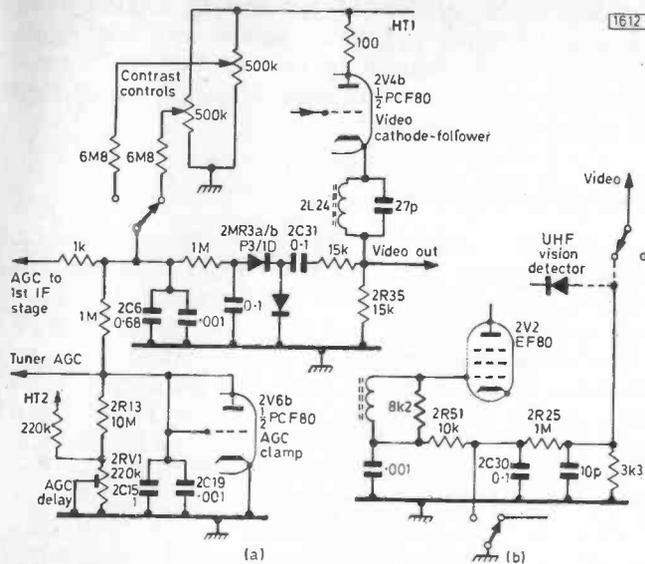

Fig. 1: The a.g.c. system. (a) Main a.g.c. circuit. (b) Additional circuit operative on 625 lines to prevent lock-out on sudden application of a strong signal.
Moving on to the main chassis assembly, problems can be experienced with the a.g.c. circuit. As shown in Fig. 1, this is relatively complex. The main a.g.c. circuit is shown at (a) and consists of a voltage doubler rectifier (2MR3) followed by the usual filters and a diode-connected triode clamp. A noisy picture may not be the tuner but the 10M $\Omega$  resistor 2R13 in series with the a.g.c. delay control going open-circuit. Unsatisfactory contrast control action and/or unstable sync and buzzing sound may be 2RV1 being set incorrectly or 2R13 changing value. Other culprits of odd
a.g.c. action are 2C6, 2C15 and 2C19. On 625 lines there is a second a.g.c. line – see Fig. 1(b) – to prevent lock-out. This consists of a filter between the u.h.f. detector output and the control grid of the second i.f. stage. Poor hold on 625 lines may well be due to 2C30 in this circuit. Also check 2R51.